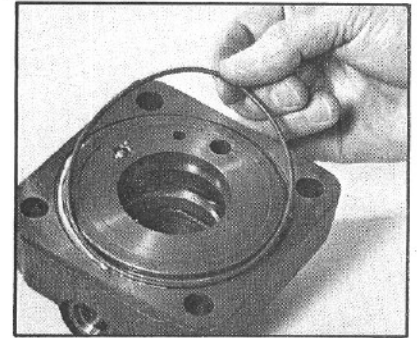

Figure 117
19. Apply clean grease to the O-ring groove in the valve housing (9). Install the new valve housing O-ring (10) into the groove (FIG. 117).